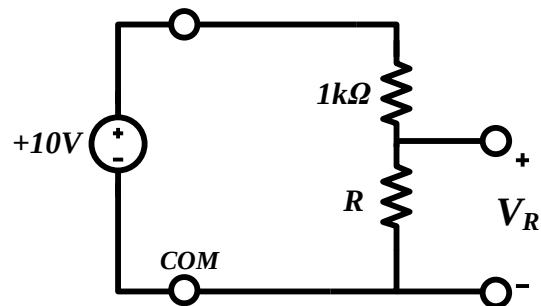

figure 6 (b)
1. With the DMM set to measure DC volts, measure the voltage across R. Fig 6(a) indicates placement of the voltmeter for this measurement. An alternate method for indicating where a voltage measurement is made is shown in fig 6(b). Here the voltage is given a label, V_R in this case, and the polarity of the measurement is defined with + and – signs. The + corresponds to the node where the V/ Ω terminal